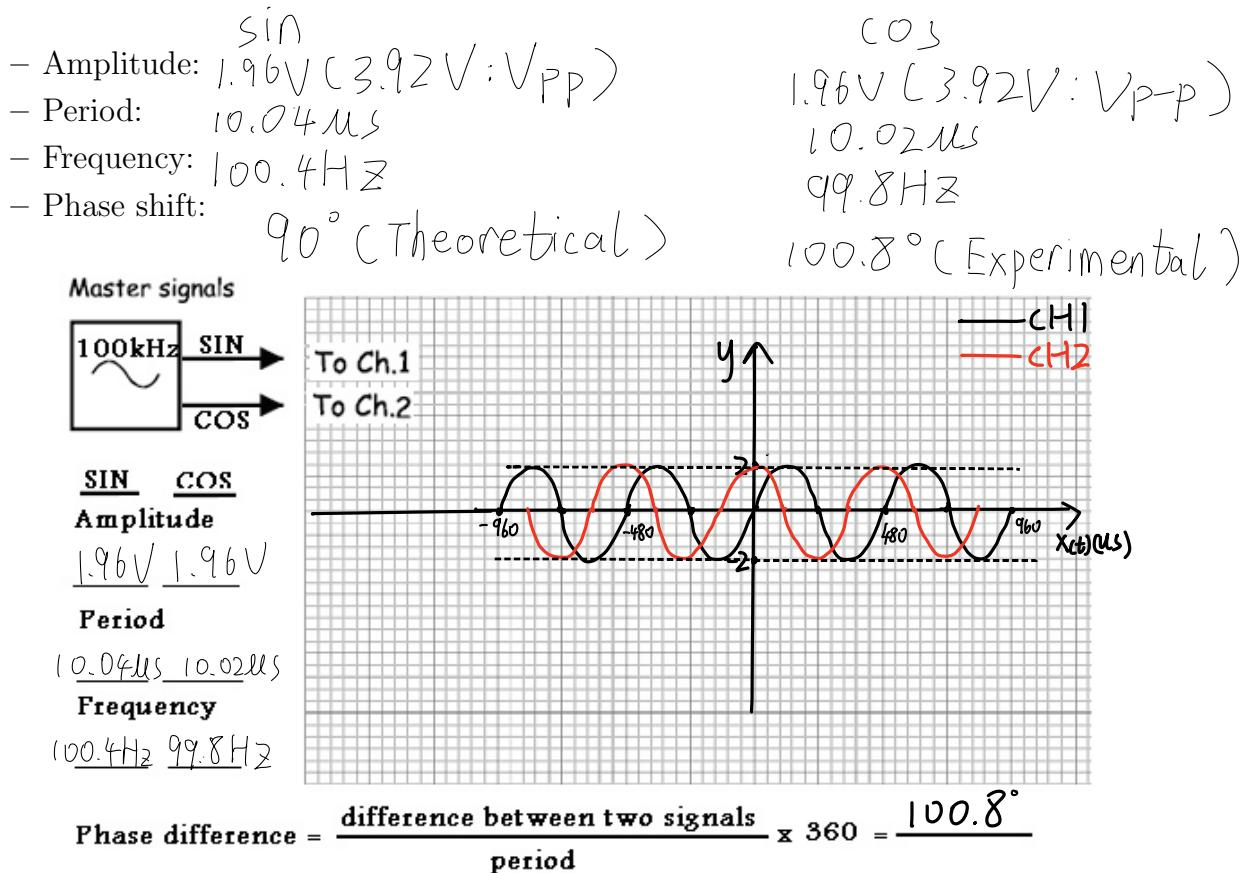

Figure 4: SIN and COS master signals.
- Connect the master signal 100 kHz SIN to Ch-1 and 100 kHz COS to Ch-2, as in Figure 4. Sketch both signals in the same grid of the figure, recording amplitude, period, frequency and phase shift, making note of the uncertainty in each of these measurements. [1 mark]